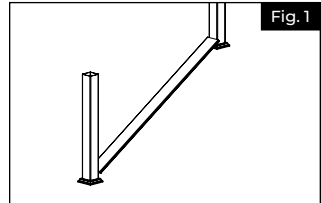

Fig. 1
- a. Place bottom rail across post opening leaving equivalent spacing from the last baluster and post on each end (Fig. 1).
- a. Temporarily place a deck board ($\frac{5}{8}$ " to your stair treads to determine the spacing between the nose of the stairs and your bottom rail (Fig. 1).
- a. Measure distance between post from inside corners (Fig. 1) that will be using the pre-molded adapter and the next post. Subtract $\frac{3}{4}$ " from that distance and that will be the length you will need to cut your top and bottom rails (Fig. 1).